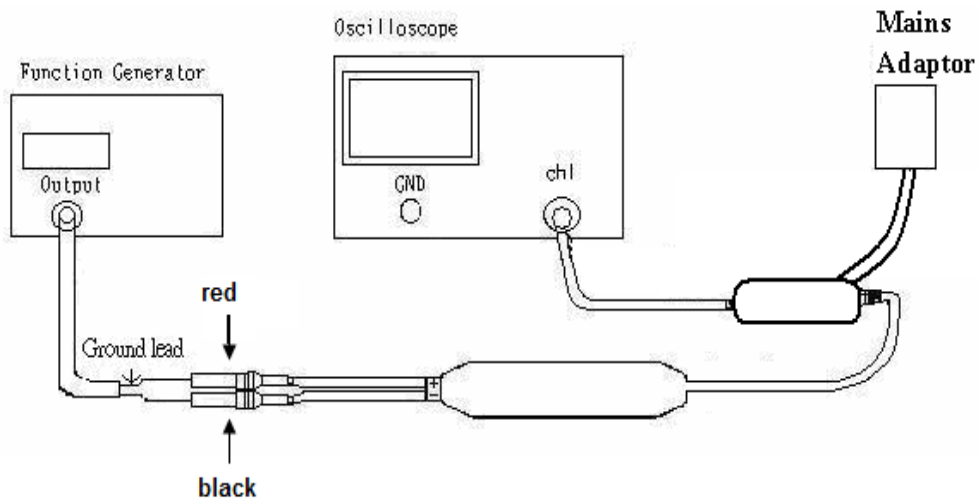

Fig. 7
- F-1. Connect the probe as shown in figure 7.